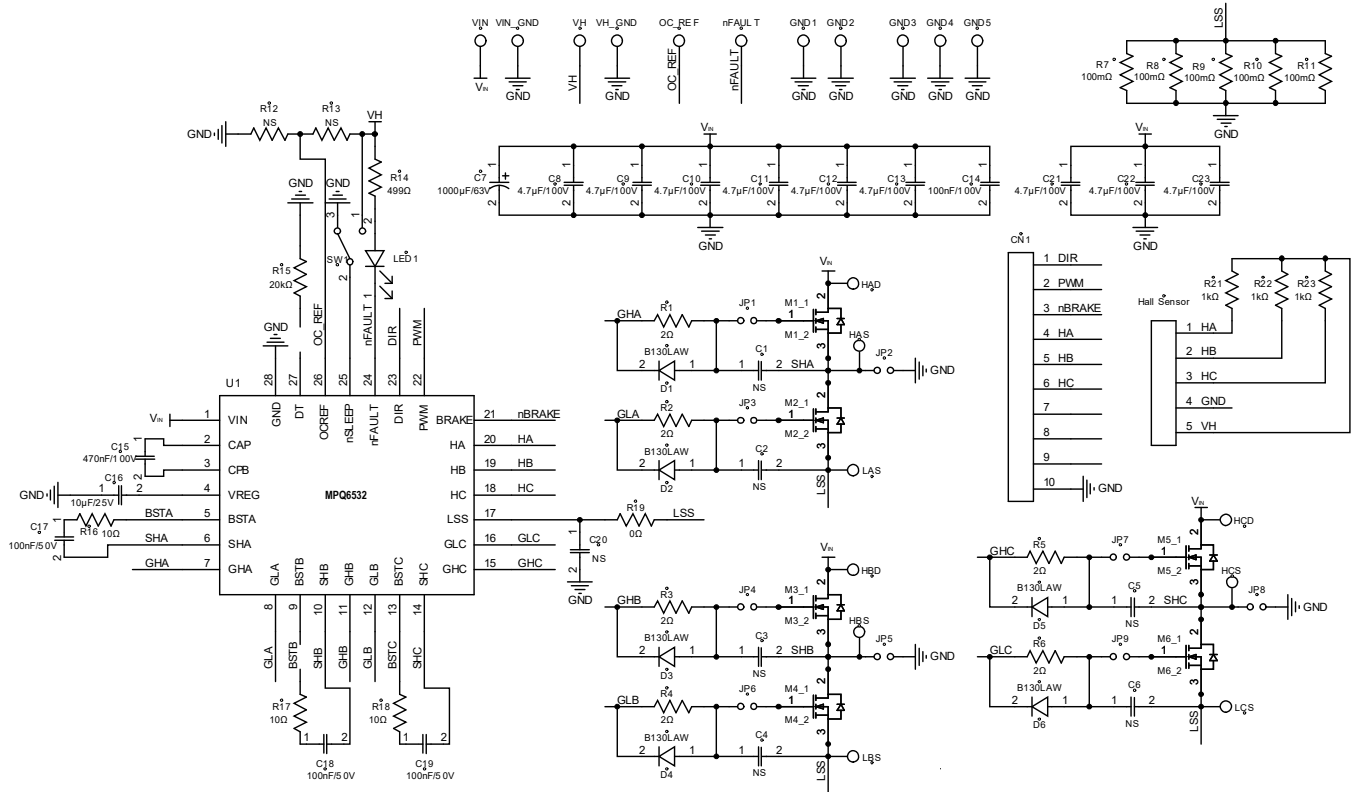

Figure 1: Evaluation Board Schematic
2. Connect the VH voltage (3.3V or 5V) to the VH connector, then switch SW1 down to the position 1 terminal (see Figure 1) to enable the MPQ6532.